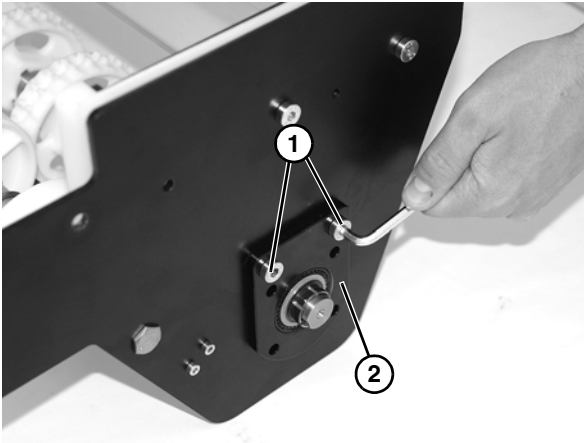

Figure 48
7. Remove two socket head screws (**Figure 48, item 1**) and remove plate (**Figure 48, item 2**).